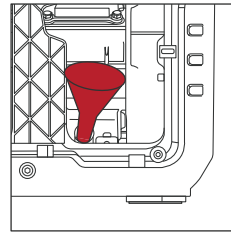

Fig.6
- 3 Remove the oil dipstick, and use the oil funnel to add 0.12gal oil. DO NOT OVERFILL (see Fig.6).